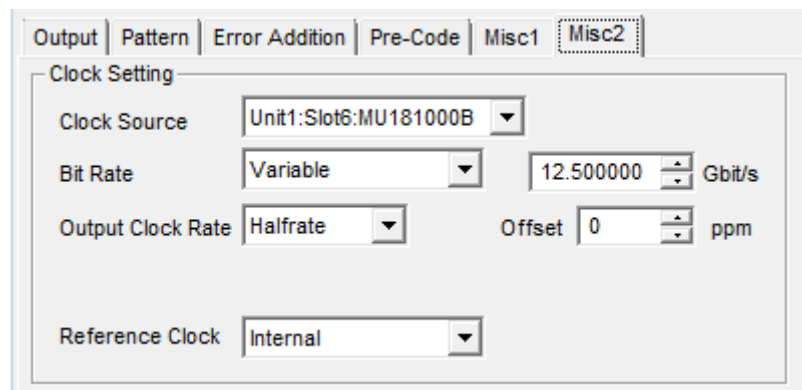

Figure 5.6.1.2-1 Clock Source Settings (When Tracking with Jitter)
2. Now, you can set the bit rate of the output data to the Bit Rate box in the MU183020A screen. Figure 5.6.1.2-1 shows an example when the output data is set to 12.5 Gbit/s.